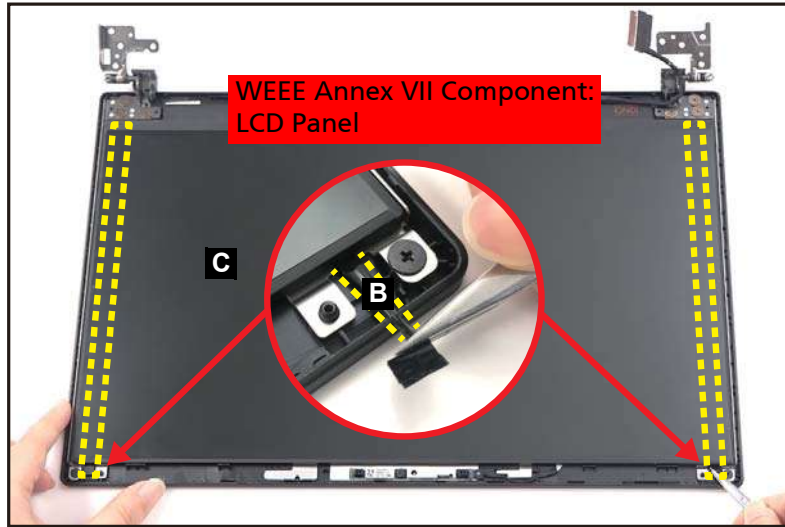

Figure 3-58. LCD Panel Removal
2. Pry slightly to access the double-sided mounting tape (B) underneath the LCD panel (C). Then pull to detach the double-sided mounting tape. Repeat the same procedure to remove the double-sided mounting tape on another side of the LCD panel (Figure 3-58).